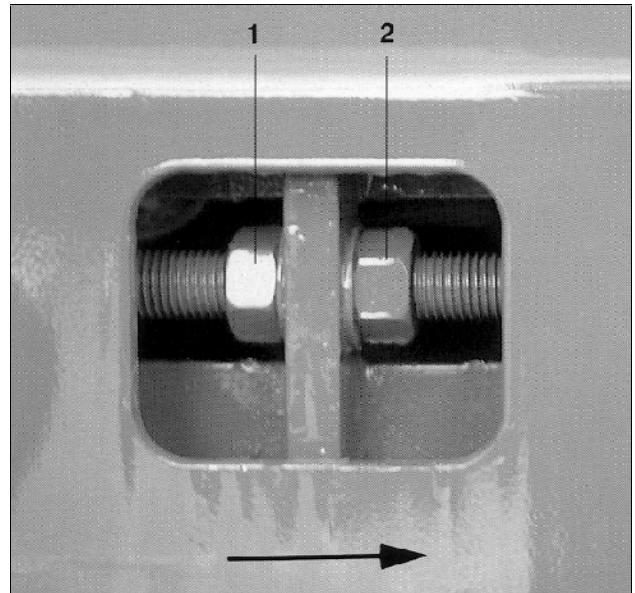

Fig. 55
1. Loosen the rear counter nuts (Fig. 55/1), on both sides by turning them to the left (the direction of travel is indicated by the arrow).
2. Turn the hexagonal nuts (Fig. 55/2) on both sides to the left by the same amount (the direction of travel is indicated by the arrow).
The amount that the hexagonal nuts (Fig. 55/2) have been moved must be the same on both sides of the belt unit. Do not turn the two hexagonal nuts (Fig. 55/2) by more than  $\frac{1}{2}$  a spanner turn. Tighten the counter nuts and check whether the conveyor belt is running evenly.